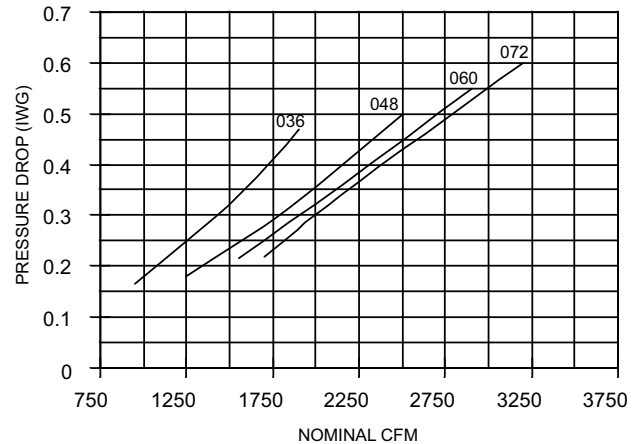

FIGURE 17 - PRESSURE DROP ACROSS COIL
4. Knowing the pressure drop across a dry coil, the actual CFM through the unit can be determined from the curve in Pressure Drop vs. Supply Air CFM (Figure 17).